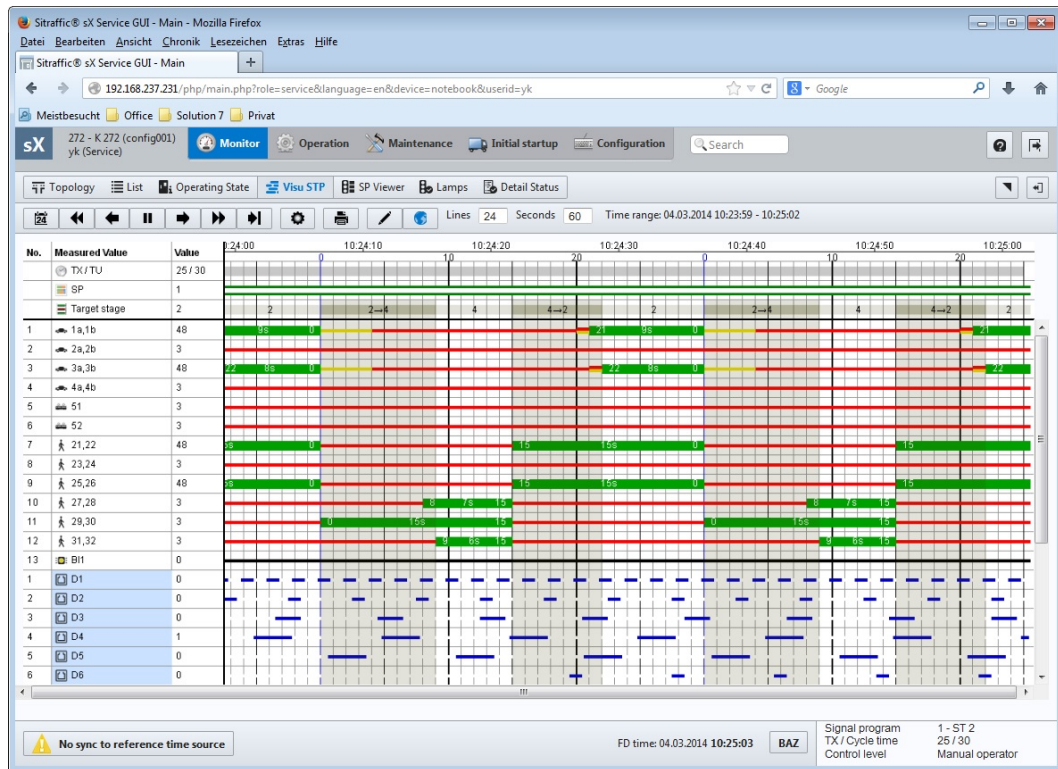

Figure 18: Controller Service GUI showing the online signal program visualization.
2. Service GUI -> Monitor -> Visu STP: Check whether the stage-oriented signal-plan is signalized. This is indicated by the change of stages throughout the signalization cycle and the corresponding change of signal indication of signalgroups (see Figure 18).
Service GUI -> Monitor -> Visu STP: Check whether the occupation of the detector has been perceived by the controller (see Figure 18).